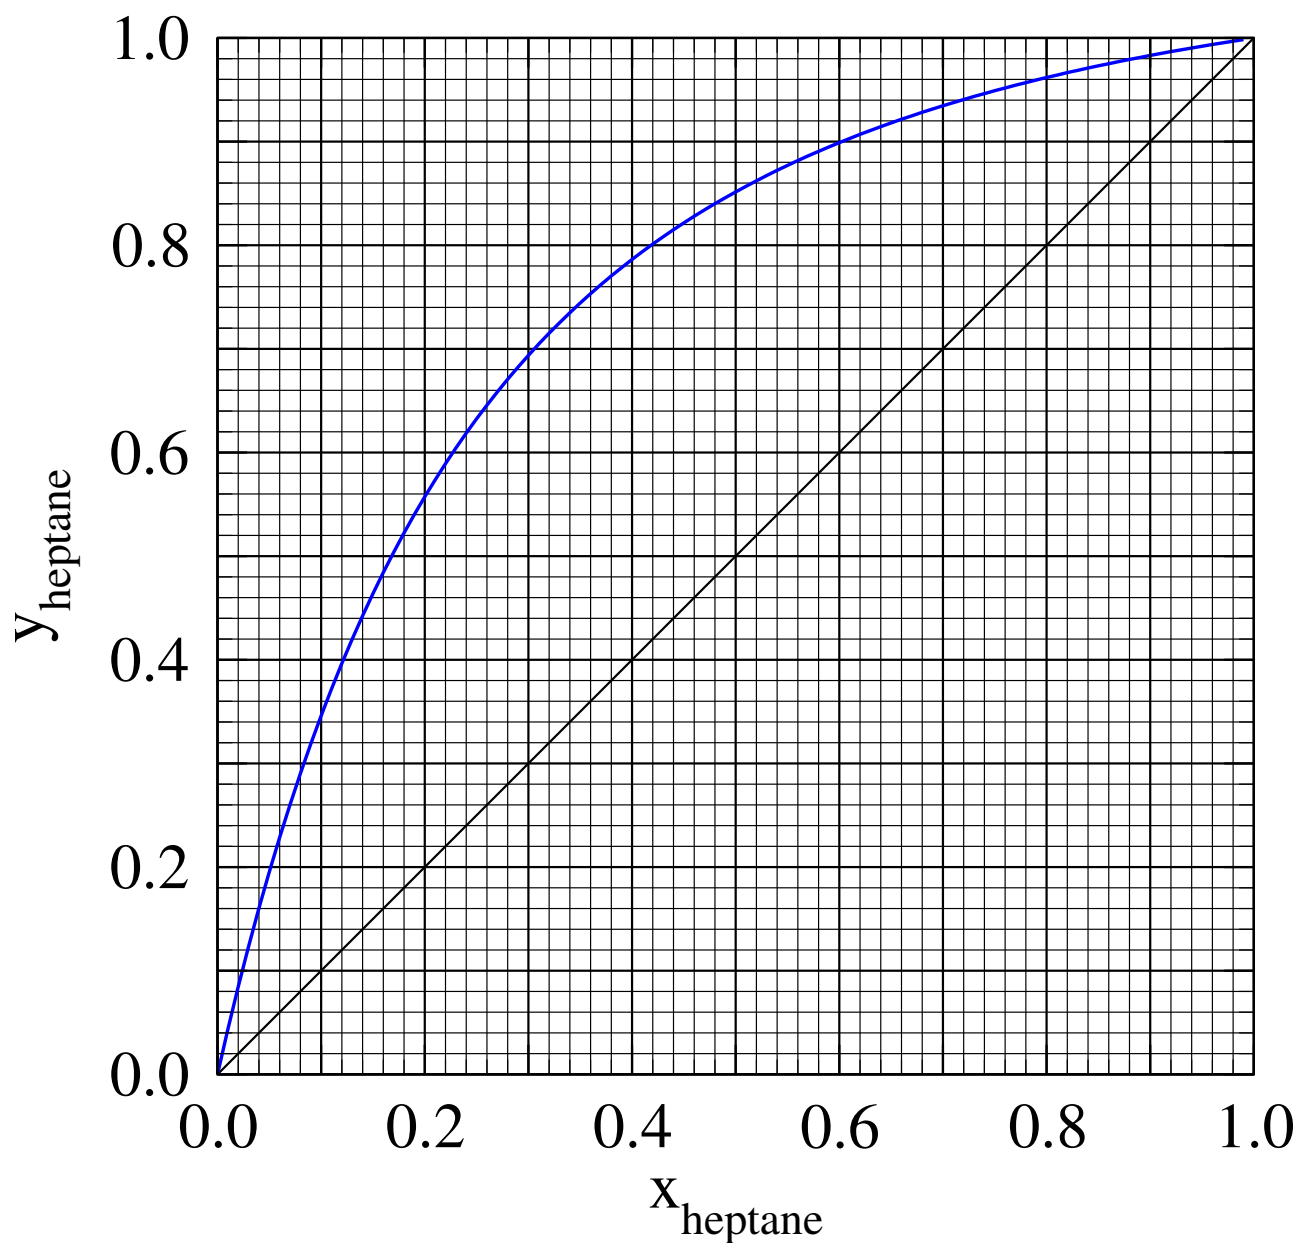

Figure 24: VLE data for the heptane-octane system at 1 atm. For use in Q. 35.
**Note:** VLE data is provided in Fig. 24.